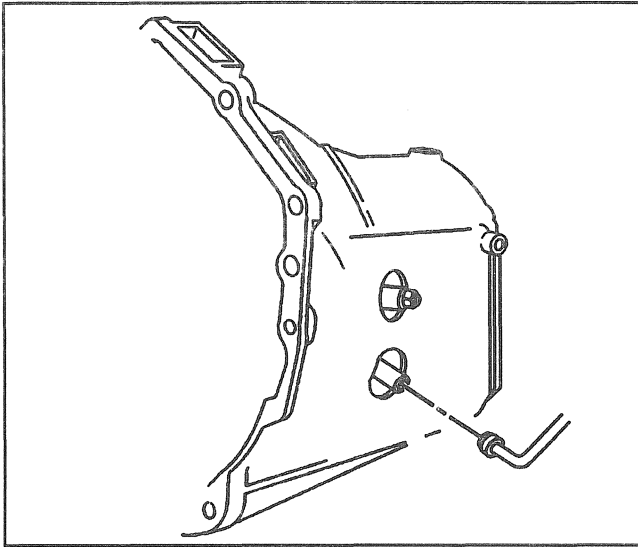

Figure 10—Quick Connect and Hydraulic Clutch Line
Remove or Disconnect (Figures 10 through 16)
10. Clutch line from the concentric slave cylinder quick connect (Figure 10).
Install or Connect (Figures 10 through 16)
11. Hydraulic clutch line to the concentric slave cylinder quick connect (Figure 10).